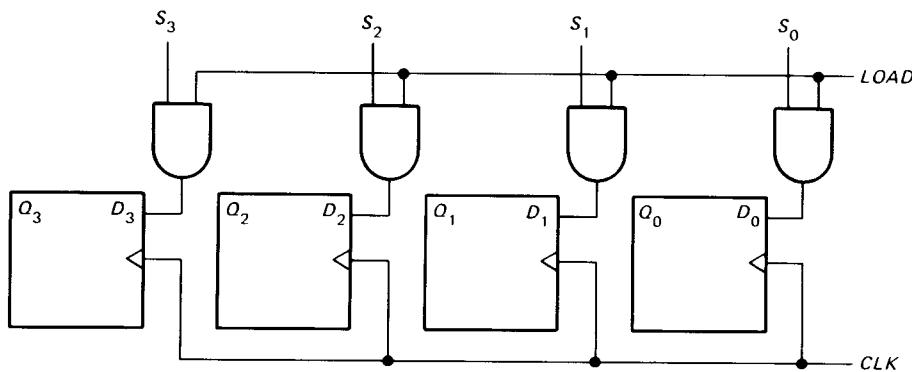

Fig. 7-18
- 7-3. In Fig. 7-18, the data word to be stored is